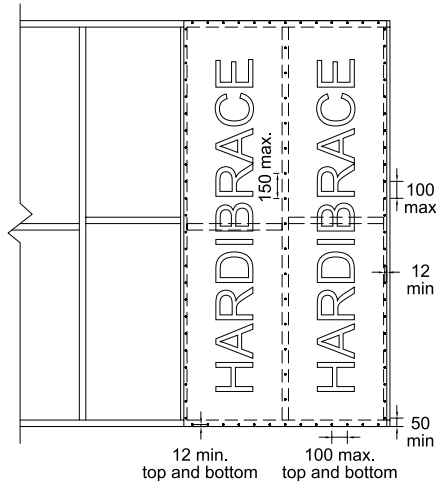

Figure 1: Type A Nailing Detail
To achieve Type A bracing capacity (3kN/900mm), fix the HardiBrace™ Sheet Bracing in accordance with Figure 1, Section 5 and Clause 2.2.5 of this manual.
- To achieve **Type A** bracing capacity with 6mm JHFC sheets as defined at Clause 1.2 of this manual, fix sheets in accordance with Figure 1, Section 5 and Clause 2.2.5 of this manual;
HardiBrace™ Sheet Bracing fixed with standard nail pattern (see Figure 1)	3.3
6mm JHFC sheets, single-sided, fixed vertically as per standard HardiBrace™ Sheet Bracing (see Figure 1)	3.3